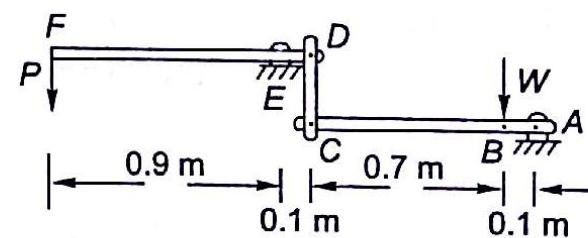

Fig. 3.50
- 3.4 Fig. 3.50 shows a system of levers ABC and DEF with fulcrums at E and A . How much load W can be lifted by an effort $P = 80$ N at F ?